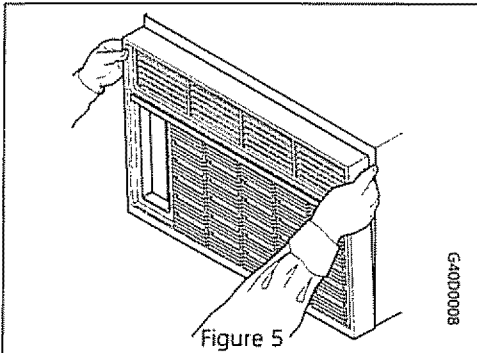
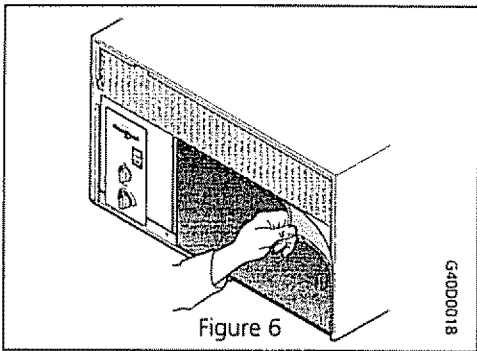

Figure 5
Figure 6
- Remove the front retaining screw on each side of the cabinet with a standard #2 Phillips screwdriver. Push the front down and pull toward you to release the front from its retaining lock (Figure 5). Pull the filter from its recess (Figure 6)